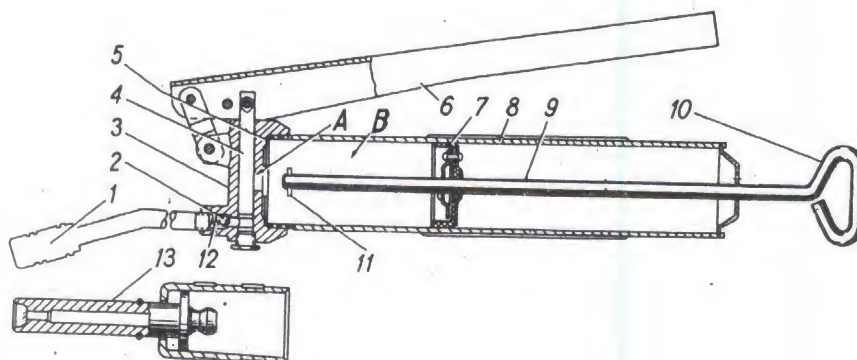

FIG. 150. LEVER-PLUNGER GREASE GUN
1. Screw cover 3 (Fig. 150) out of housing 8.